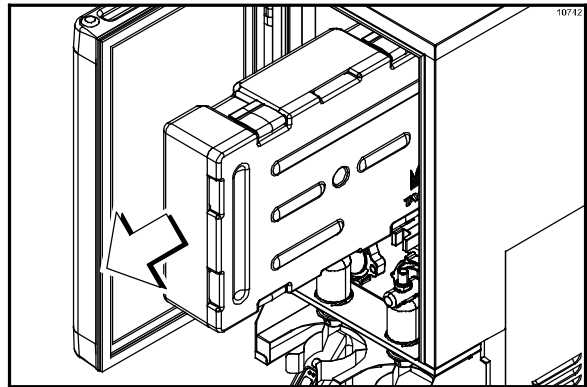

Figure 37
3. Remove the concentrate containers from the cabinet. (See Figure 37.)